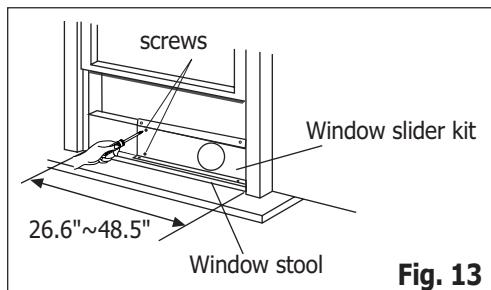

Fig. 13
- Open the window sash and place the window slider kit on the window stool (Fig. 13). Attach the window slider kit to the window stool. Adjust the length of the window slider kit according to the width of window. Screw down the two screws on the window slider kit. See Fig.13. Cut the adjustable window slider kit if the width of window is less than 26.6 inches (Fig. 14).